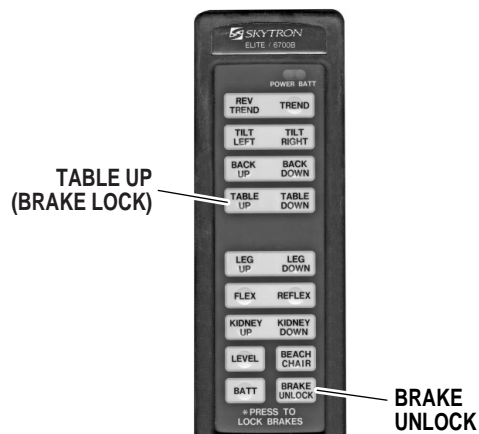

Figure 2-5. Brake System Activation
a. **Floor Lock/Brake System.** To activate the brakes without affecting table positioning, press the TABLE UP button. See figure 2-5. The elevation cylinder will not function until the brakes are completely extended.
Press the BRAKE UNLOCK button on the pendant control to release the four self-leveling brake feet in order to move the table. See figure 2-5. The brake delay circuit automatically retracts the brake system. It takes approximately 7-8 seconds to totally release the system.